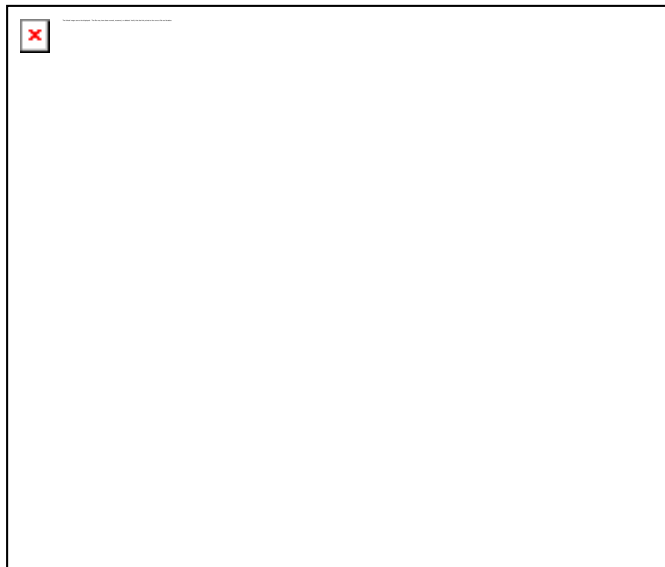

Figure 7. Lowered catalytic converter pipes.
1. Move the exhaust sliding bushings (that connect the catalytic converter and muffler) back, then lower the catalytic converter pipes (Figure 7).